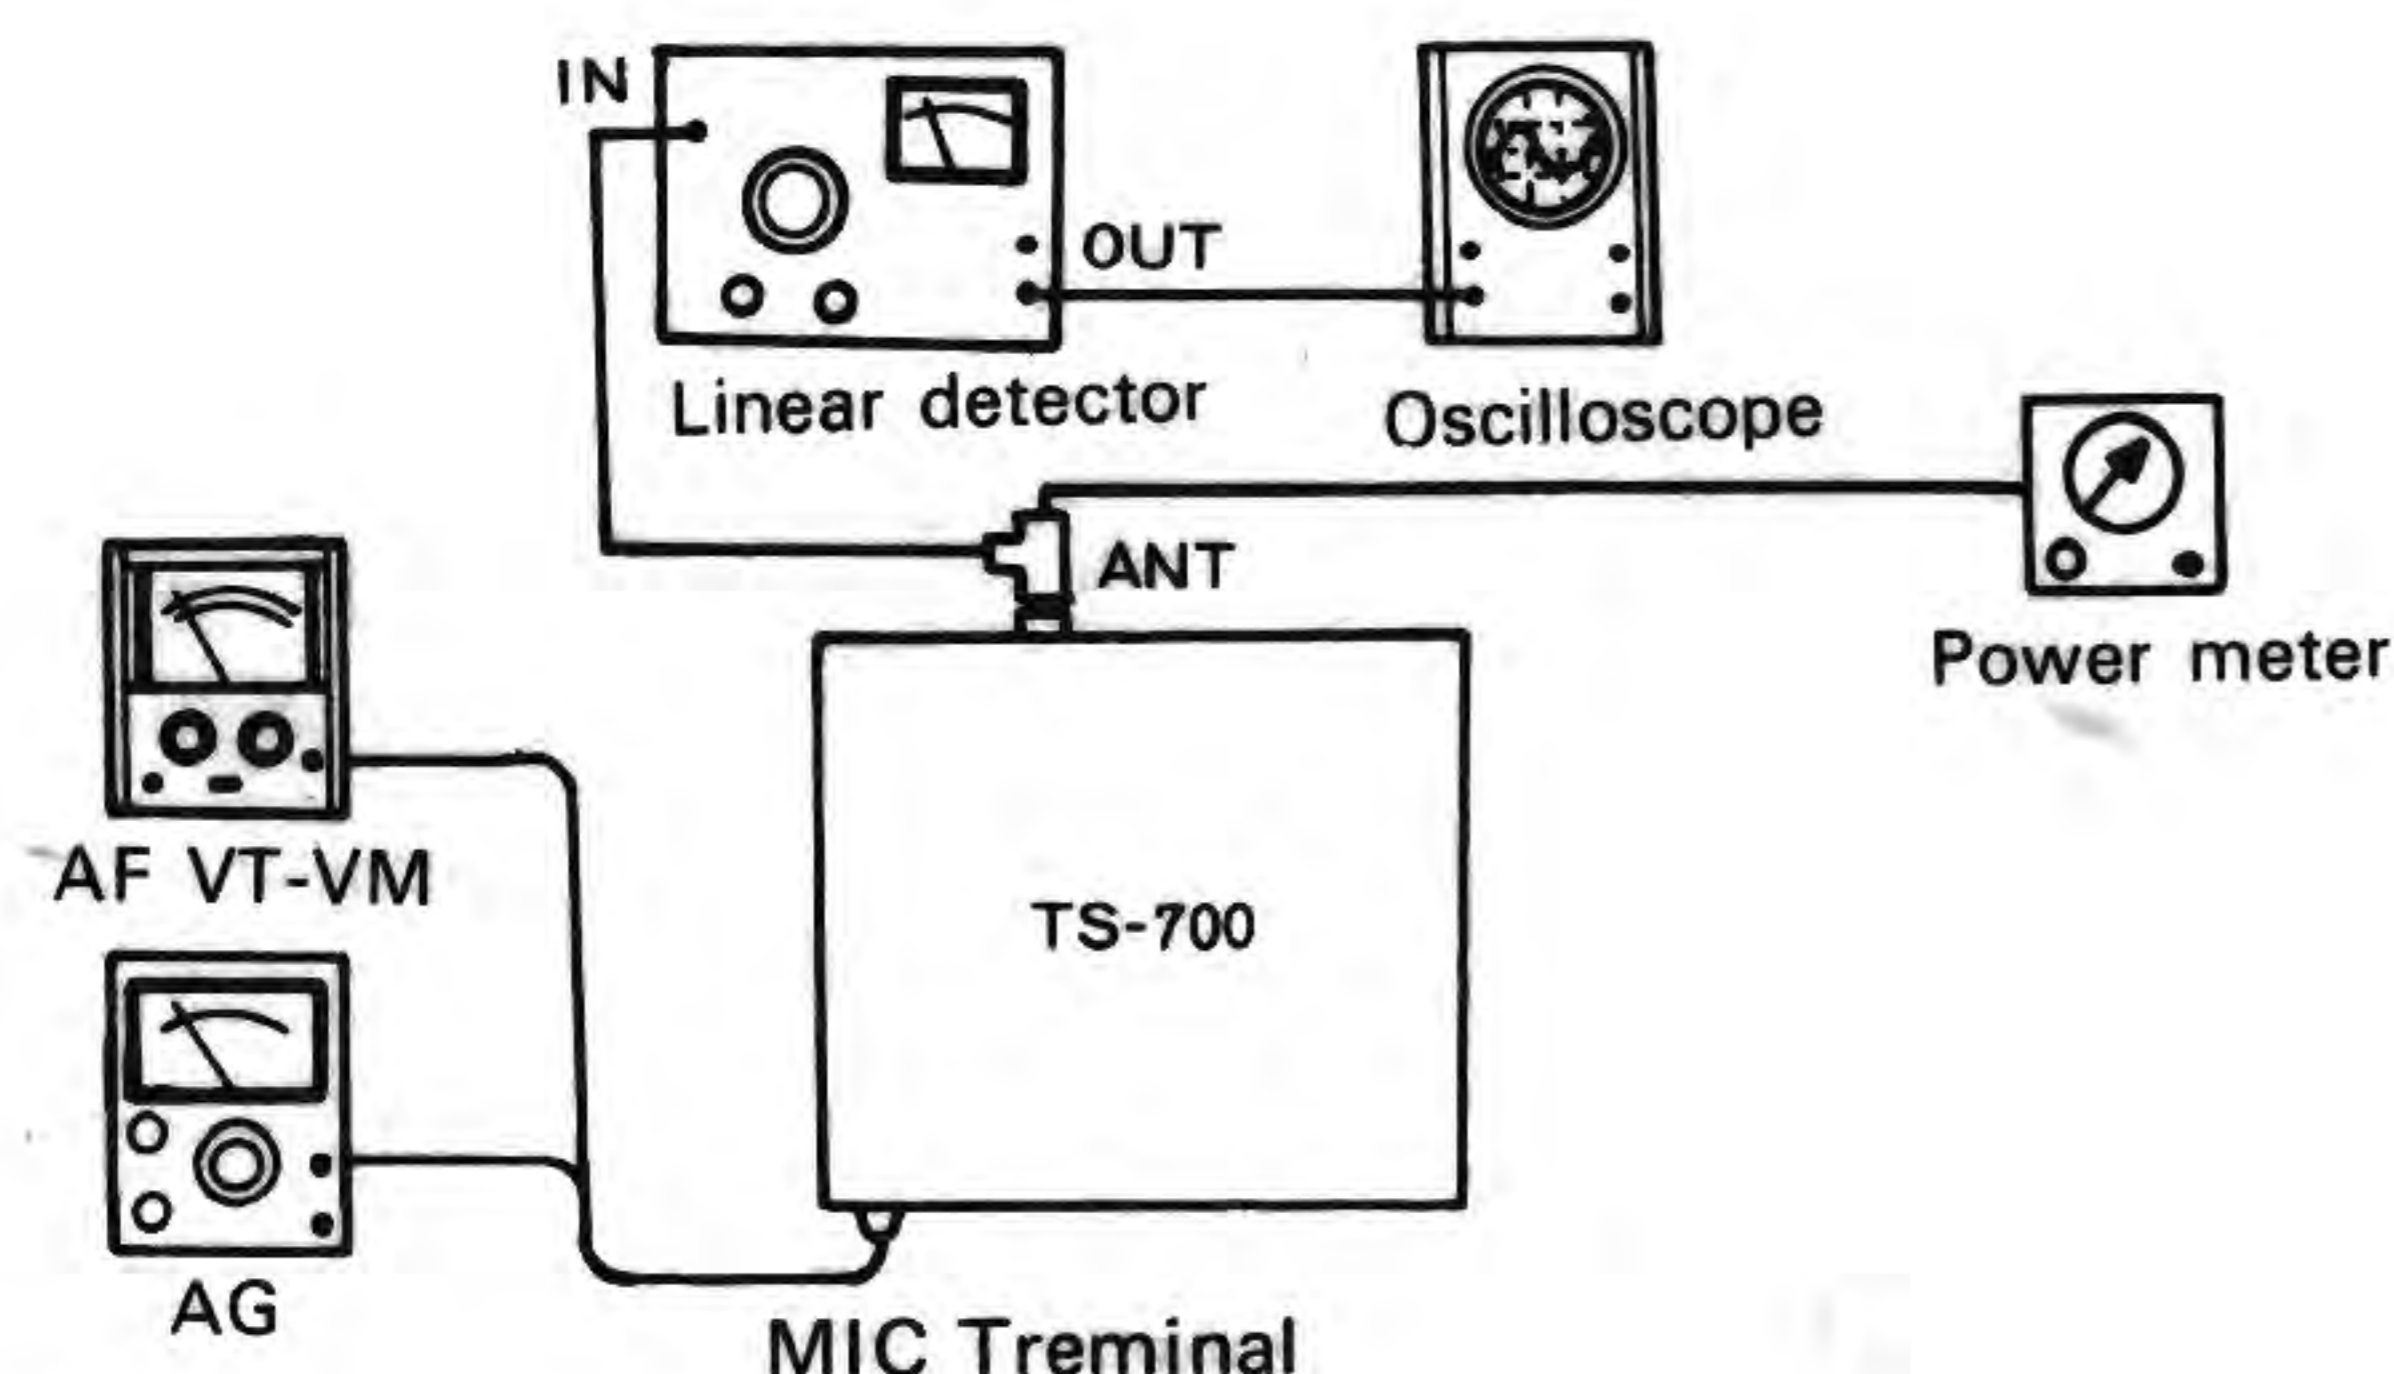

Fig. 26
- 4) Referring to Fig. 26, adjust to obtain an AG output of 2 mV and 1.5 kHz.
6) Turn SSB-MIC-GAIN clockwise all the way. As shown in Fig. 26, connect the AF vacuum-tube voltmeter and audio generator (AG) to the MIC terminal.